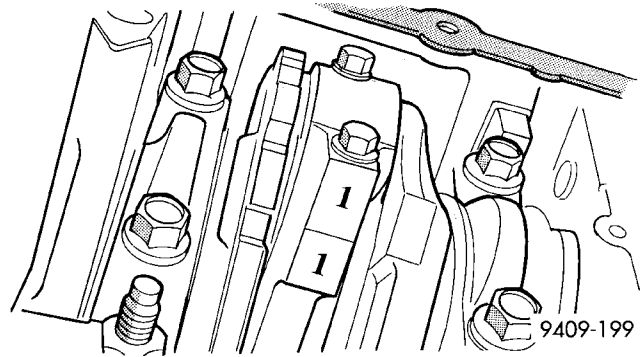

Fig. 79 Identify Connecting Rod to Cylinder
- (2) Remove oil pan. Scribe the cylinder number on the side of the rod and cap (Fig. 79) for identification.